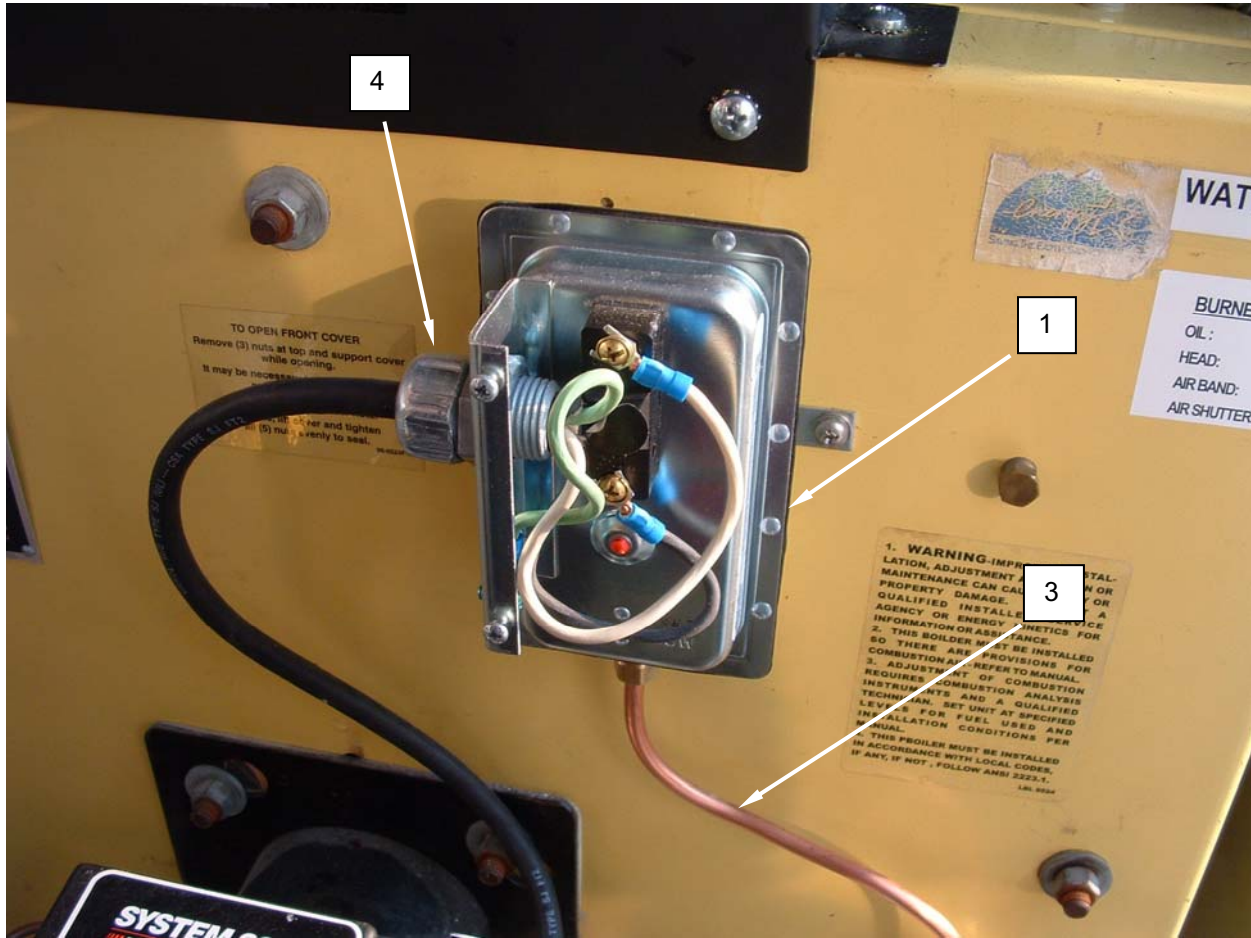

Figure 2. Replace the Exhaust Gas Sensor.
2. Remove cover from exhaust gas sensor (**Figure 2, Item 1**).
3. Loosen compression nut and disconnect copper tubing (**Figure 2, Item 3**) from exhaust gas sensor (**Figure 2, Item 1**).
4. Tag and disconnect wiring from exhaust gas sensor (**Figure 2, Item 1**).
5. Remove conduit (**Figure 2, Item 4**).
6. Remove screws retaining exhaust gas sensor (**Figure 2, Item 1**) to boiler and remove exhaust gas sensor.
7. Install replacement exhaust gas sensor (**Figure 2, Item 1**), and retain with screws.
8. Connect copper tubing (**Figure 2, Item 3**) to replacement exhaust gas sensor and secure with compression nut.
9. Remove cover from replacement exhaust gas sensor (**Figure 2, Item 1**).
10. Install conduit (**Figure 2, Item 4**) onto replacement exhaust gas sensor (**Figure 2, Item 1**).
11. Connect wiring to replacement exhaust gas sensor (**Figure 2, Item 1**) as tagged.